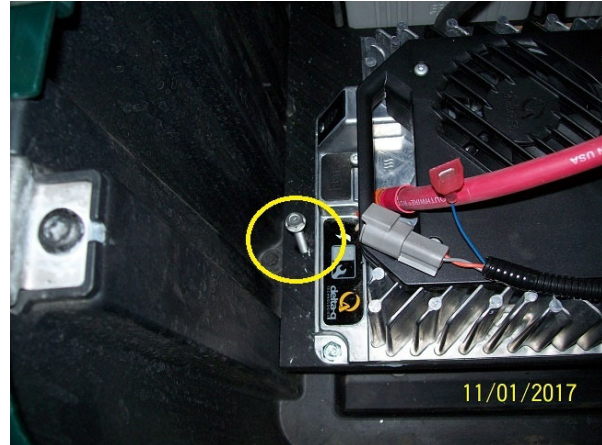

Fig. 2- Self-tapping screws
- Using the supplied (4) 1/4" x 4" stainless self-tapping; self-drilling screws (Fig. 2), secure the lithium battery pack to the vehicle's frame. There are four predrilled holes located in the bottom piece of the lithium battery pack tray. An impact driver is highly recommended in the process of drilling these screws into the frame.